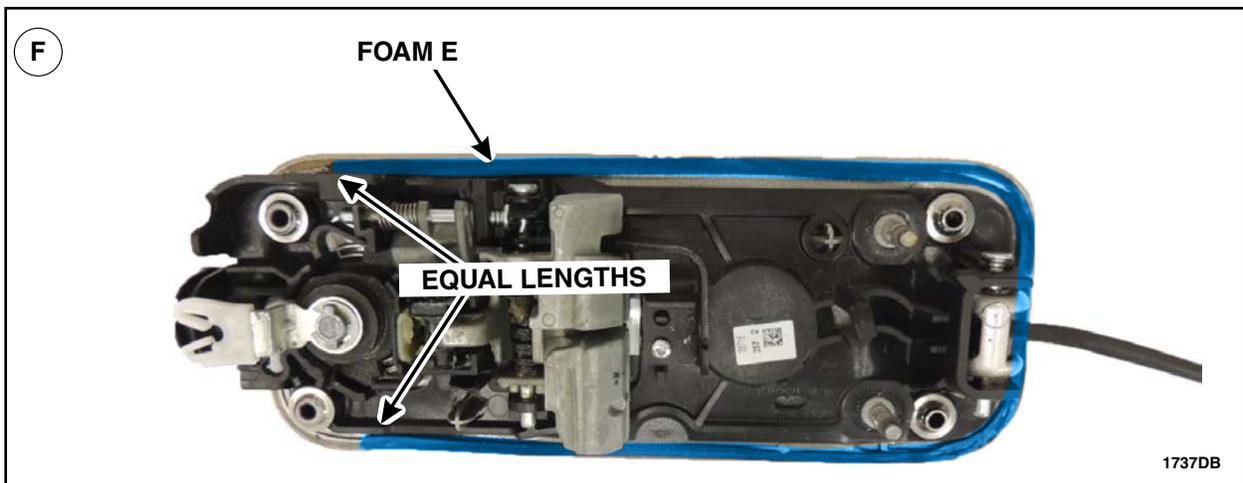

FIGURE 16
- F. Without stretching the foam adhere it to the exterior door handle ensuring that both sides of Foam E are of equal length once secured. See Figure 16.